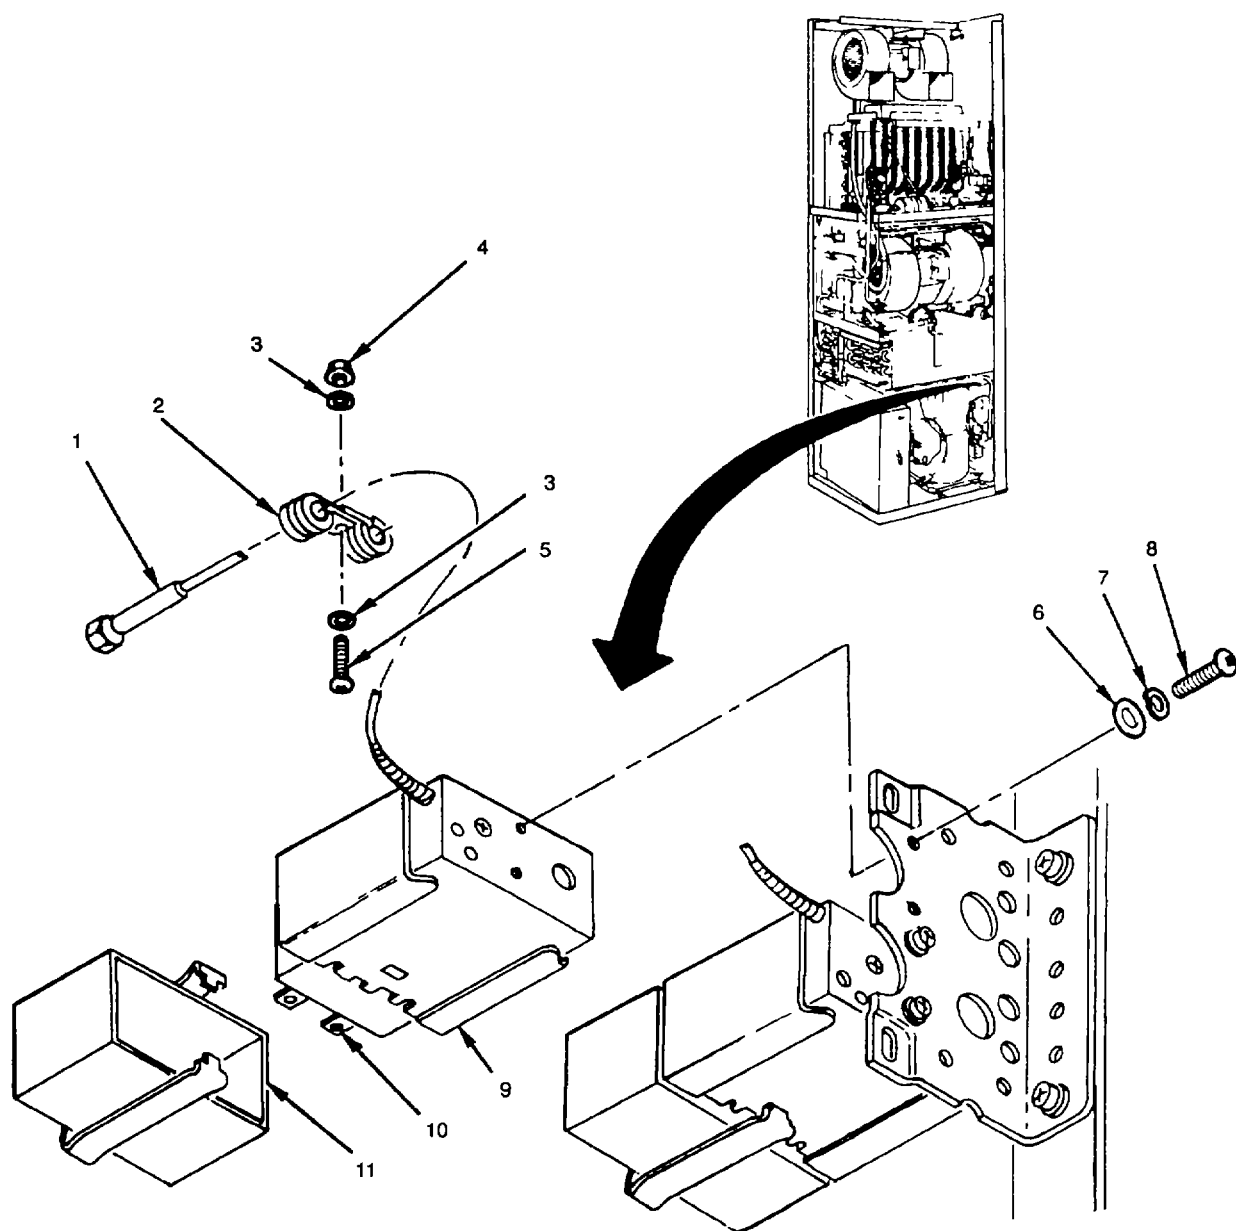

Figure 5-12. High Refrigerant Pressure Switch (S5)
- (1) Disconnect air conditioner input power at source,
- (2) Remove compressor section panel (paragraph 4.24), and
- (3) Discharge compressor (paragraph 5.17)
- a. Check that switch and cover are not dented, broken or cracked. Replace switch and cover if defective (see fig. 5-12).